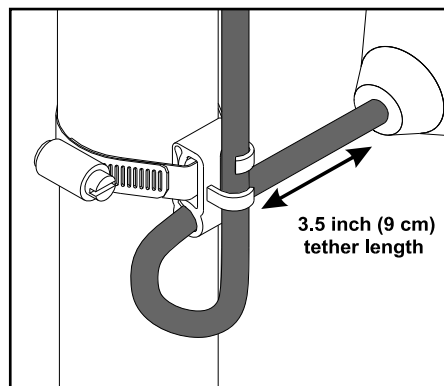

FIGURE 2 - Mounting clamp detail
- Place the cord into the clamp as shown in **Figure 2**.
- Locate the clamp at the desired activation level and secure the clamp to the discharge pipe as shown in **Figure 2**.